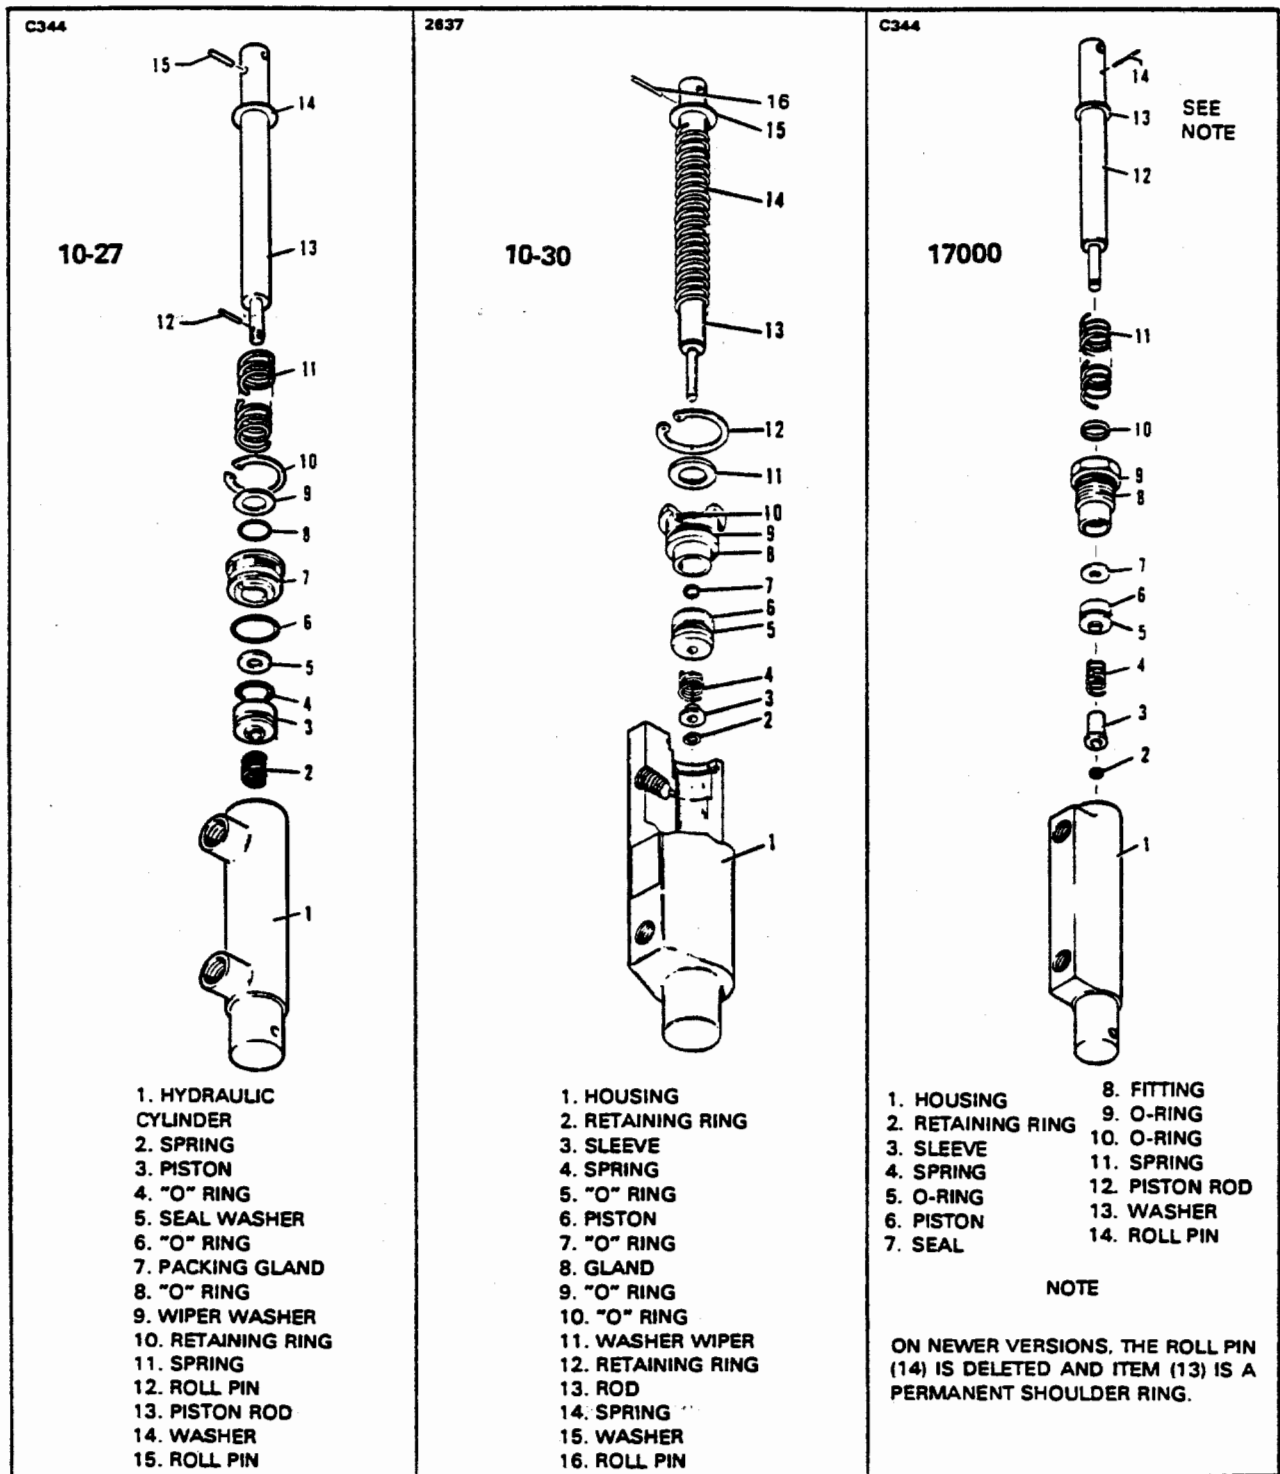

Figure 7-14. Brake Cylinder 10-27, 10-30, 17000 (Toe Brake)
- a. Cleveland cylinder number 10-27. (Refer to Figure 7-14.)
2. To disassemble the cylinder, first remove the piston rod assembly by removing the retaining ring (10) from the annular slot in the cylinder housing (1). Draw the piston rod assembly from the cylinder.
3. The piston rod assembly may be disassembled by first removing the roll pin (12) and then the piston assembly (3), seal (5), packing gland (7).
- b. Cleveland cylinder number 10-30. (Refer to Figure 7-14.)
- 2. To disassemble the cylinder, first remove the piston rod assembly by removing the retaining ring from the annular slot in the cylinder housing (1). Draw the piston rod assembly from the cylinder.
- 3. The piston rod assembly may be disassembled by first removing the retaining ring (2), sleeve (3), spring (4), and then the piston assembly, O-ring (5), and gland (8), and, if desired, the return spring (14).
- c. Gar-Kenyon cylinder number 17000. (Refer to Figure 7-14.)
- 2. To disassemble the cylinder, first remove the piston rod assembly by unscrewing the fitting (8) from the cylinder.
- 3. The piston rod assembly may be disassembled by first removing the retaining ring (2) securing the sleeve (3) and then removing the spring (4), piston (6), seal (7), fitting (8), and, if desired, the large return spring (11).
7-43. ASSEMBLY OF BRAKE CYLINDER. (Refer to Figure 7-14.)
- 1. Install new O-rings on the inside and outside of the packing gland (7) and on the outside of the piston (3).
- 2. To assemble the piston rod assembly, install on the rod (13), in order, the roll pin (15), washer (14), spring (11), washer (9), packing gland (7), seal (5), piston assembly (3), spring (2), and roll pin (12).
- 3. Insert the piston rod assembly in the cylinder (1) and secure with the retaining ring (10).
- b. Cleveland cylinder 10-30. (Refer to Figure 7-14.)
- 1. Install new O-rings on the inside and outside of the packing gland (8) and on the outside of the piston (6).
- 2. To assemble the piston rod assembly, install on the rod (13), in order, the roll pin (16), washer (15), spring (14), washer (11), packing gland (8) with O-rings, seal (5), piston assembly (6) with O-ring, spring (4), sleeve (3) and retaining ring (2).
3. Insert the piston rod assembly in the cylinder (1) and secure with the retaining ring (12).
1. Install new O-rings on the inside and outside of the fitting (8) and on the outside of the piston (6).
2. To assemble the piston rod assembly, install on the rod (12), in order, the roll pin (14), return spring retainer washer (13), return spring (11), fitting (8) with O-rings, seal (7), piston (6) with O-ring, spring (4) and sleeve (3). Secure these pieces with the retaining ring (2) on the end of the rod.
3. Insert the piston rod assembly in the cylinder (1) and secure fitting (8).